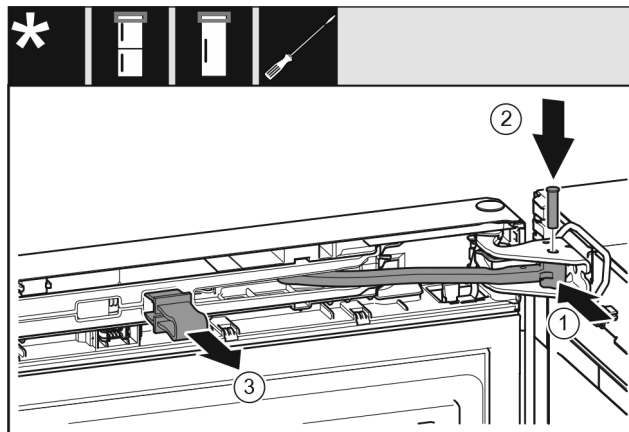

Fig. 24
- ▶ Turn the hinge in the bearing bracket. *Fig. 24 (1)*
- ▶ Insert the bolt in the bearing bracket and hinge. Make sure that the latching lug is sitting correctly in the groove. *Fig. 24 (2)*
- ▶ Remove the locking device. *Fig. 24 (3)*